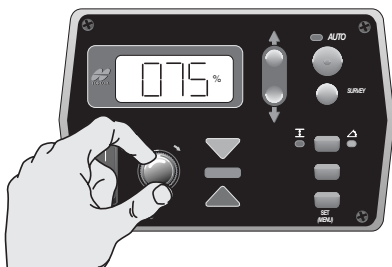

Figure 32. Select Value
2. Turn the Grade Adjustment Knob to select the desired value, typically 100 (Figure 32).